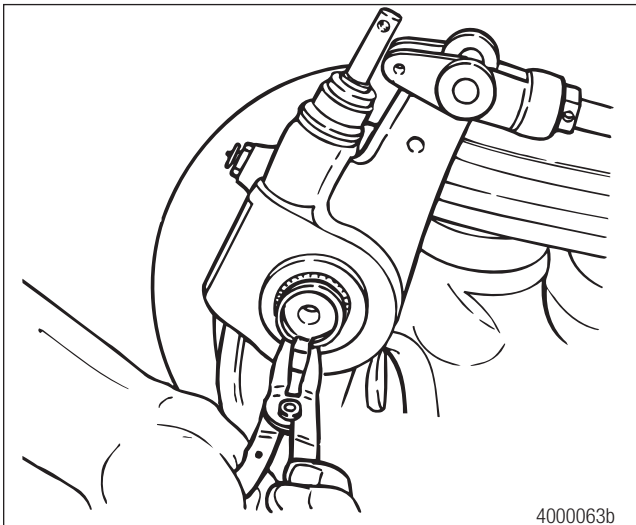

Figure 7.31
4. Install the slack adjuster retaining ring at the adjuster end of the camshaft. Figure 7.31.